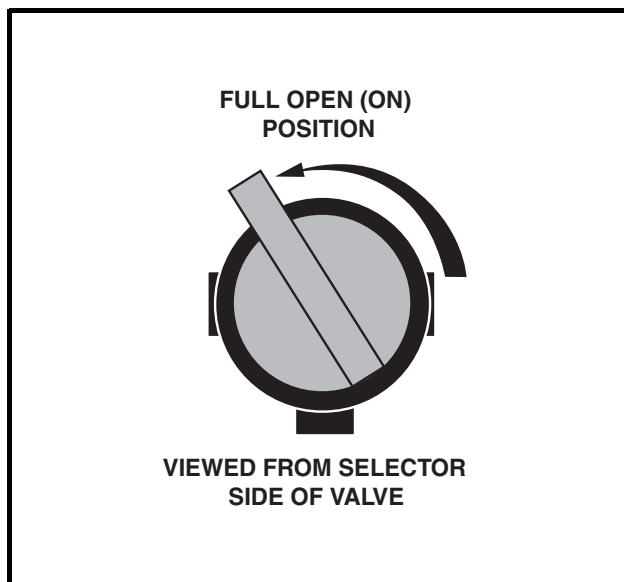
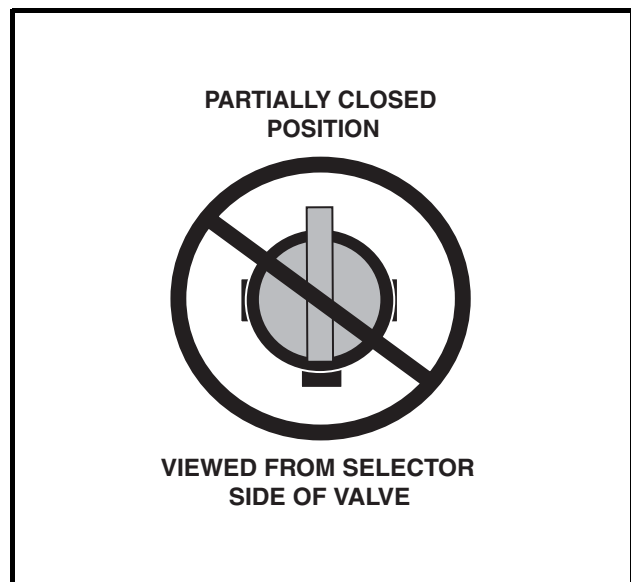

Figure 13 Fuel Shut-off Valve – Open Position
Figure 14 Fuel Valve – Partially Closed Position
- 6.1. Turn the fuel shut-off valve to the closed (OFF) position (**Figure 13**) and run the engine until fuel remaining in the carburetor and fuel line is depleted and the engine stalls.
7. Completely open the fuel shut-off valve (**Figure 13**). Make sure the valve is fully open. A partially closed fuel shut-off valve combined with the use of the choke can result in a fouled spark plug and engine failure (**Figure 14**).
- Turn the fuel shut-off valve to the closed (OFF) position (Figure 13).